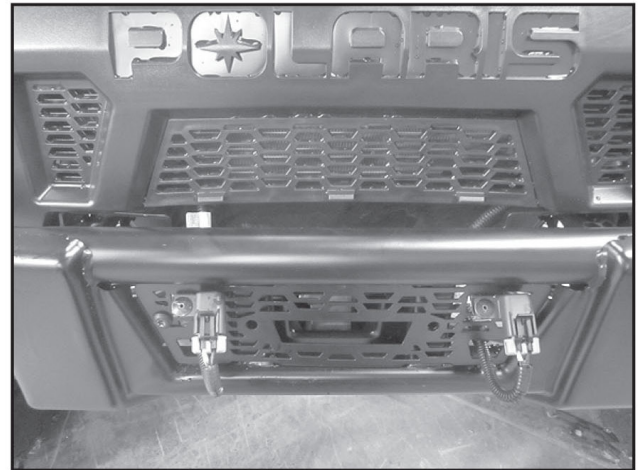

Figure 14
10. When plow system is removed from the unit the plow control wires should be connected to the cap installed on the grille in **step 4** (*in Wiring Kit Assembly Section*) to prevent moisture and debris from entering the plug as shown in *figure 14*.